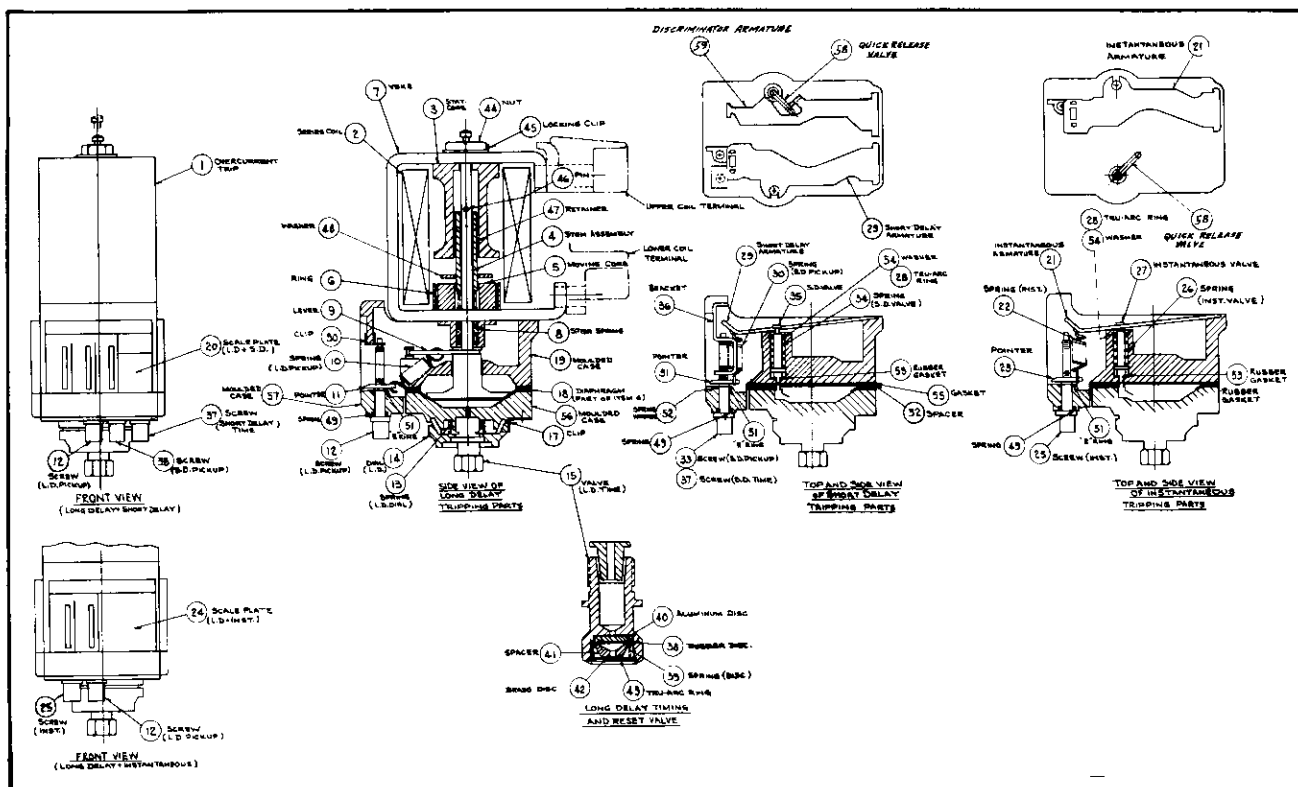

Fig. 6 - Cross-Sectional View of Series Overcurrent Tripping Device with Long Delay and Instantaneous Elements
To manually check the overtravel refer to Fig. 6. The air delay device can be made inoperative by opening the instantaneous valve (or the short delay valve in the case of selective type tripping devices). The valve is opened by lifting the instantaneous (or short delay) armature. A slot is provided in the side of the molded case and a small rod approximately 1/16 diameter can be entered through the side of the case and used as a lever to lift the armature. After the valve is blocked open, the trip plunger
As seen from the sectional view Figure 6, the magnet frame and coil assembly consists of a yoke, a coil, a stationary and moving core together with their necessary insulation.
chamber T by the various valves H and K. When the diaphragm has reached approximately 60 percent of its travel, a quick release valve (shown in Fig. 6) is mechanically opened. This quick release feature permits the full force of the magnet to be used for tripping the breaker after the timing cycle is completed. At higher currents when the attraction between the moving core C and the stationary core B is greater than the load on the spring inside of the moving core, the moving core will compress the spring and travel independently of the tripping stem F. This spring insures a constant force pattern acting on the diaphragm E. The reset valve is shown as G.
B. A quick release valve (shown in Fig. 6-short delay tripping parts) which functions as described for dual overcurrent tripping device.
C. Discriminator armature, Fig. 6.
The discriminator operating linkage, Fig. 13 and the discriminator armature, Fig. 6 are used on the selective overcurrent tripping device to make the device behave as an instantaneous type tripping device while the breaker is being closed and for approximately 0.5 seconds after closing. During this period, the discriminator armature is free to lift the quick release valve and permit instantaneous tripping, if the current is greater than the discriminator armature pick-up setting. If the current does not rise above this value, the breaker remains closed and the discriminator linkage assumes a position which makes the discriminator armature inoperable and restores the selective tripping feature to the tripping device.
The long delay pick-up can be adjusted by means of P, Figure 10, also shown in Figure 6. The unit has been calibrated and the calibration plate marked at five settings, namely 80, 100, 120, 140 and 160 percent of the coil rating. The pick-up was placed on the 100 percent setting before shipment. A different setting can be obtained by carefully turning the adjusting knob with the help of a small screwdriver inserted in the slots for that purpose.
The long delay can be adjusted by means of the long time adjusting dial S, Figure 10, also shown in Figure 6. The dial adjustment is limited to slightly less than one turn. Two points have been calibrated at the factory and are indicated by white marks on the outer edge of the dial. The dial has markings from 1 to 10. When the higher-numbered white mark on the dial coincides with the white indicator on the front of the lower case, the tripping time will be the higher long delay value shown in seconds on the scale plate. Conversely, when the lower-numbered white mark on the dial coincides with the white indicator on the front of the lower case, the tripping time will be the lower long delay value shown in seconds on the scale plate. These tripping times are calibrated with currents which are 600 percent of the coil rating applied. The dial settings are scribed on the scale plate under long delay dial setting heading.
The instantaneous pick-up can be adjusted by means of knob N, Figure 10, also shown in Figure 6. The instantaneous pick-up has been calibrated at 8 and 12 times or 5 and 10 times the coil rating at the factory. The adjusting knob can be turned carefully with the help of a small screwdriver inserted in the slots for that purpose, if a different setting is desired.